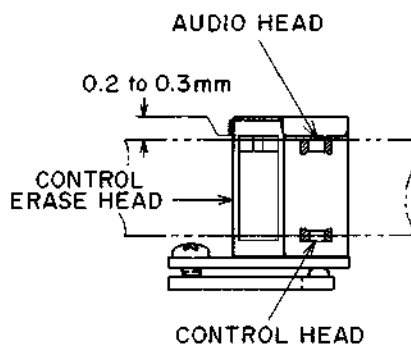

Fig. 6-7-1
1) Turn the nut (a) for coarse AC BLOCK height adjustment as in Figs. 6-7-1, & 6-7-2.